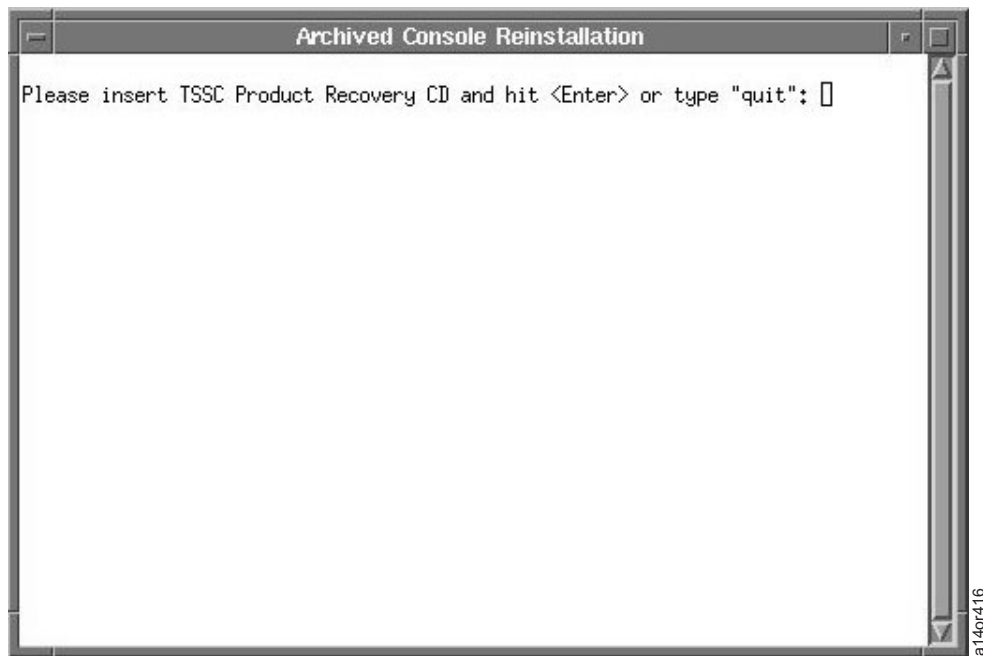

Figure 3-80. Prompt for TSSC Product Recovery CD.
2. From the Main Menu, select **System Console Actions → Disk Rebuild and Config Restore**. You will see Figure 3-80.